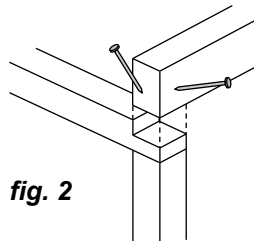

fig. 2
Step 3: Select remaining Base Plate (Green) and Top Front Plate (70 x 45mm Red). Nail to End frames using two 75mm nails per join. See (**fig. 2**) for nailing detail on Top Front Plate (70x45mm Red). Use the back wall Nogs to position the back wall stud and nail in place using two 75mm nails per join.